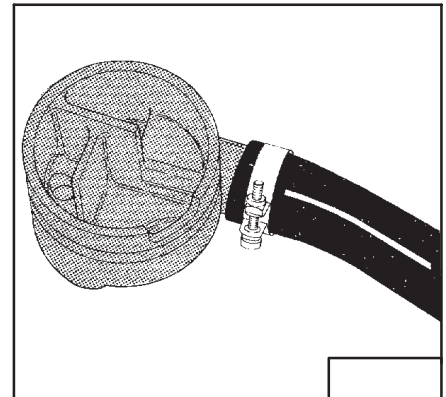

Fig. 1-17 Deutz Breather W/Element
2. Remove housing and vent tube assembly from engine (Fig. 1-17). Lay it face up and install clean copper element.